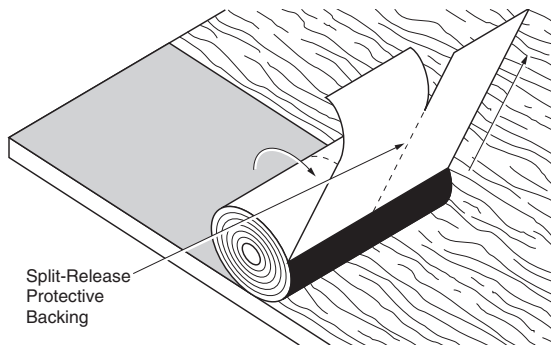

Figure 5-5: Application using the "Roll-Out" Method.
7. Beginning with the already peeled release film, continue to peel both sections of film from the roll, pulling the roll parallel to the eaves (Figure 5-5). Be sure the WinterGuard lays flat and is sticking well.